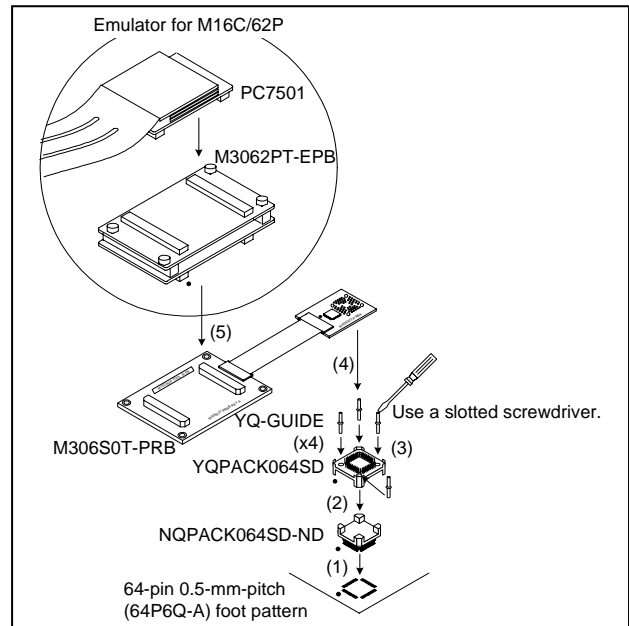

Figure 5.1 Connection procedure
5. Connection Procedure (See Figure 5.1)